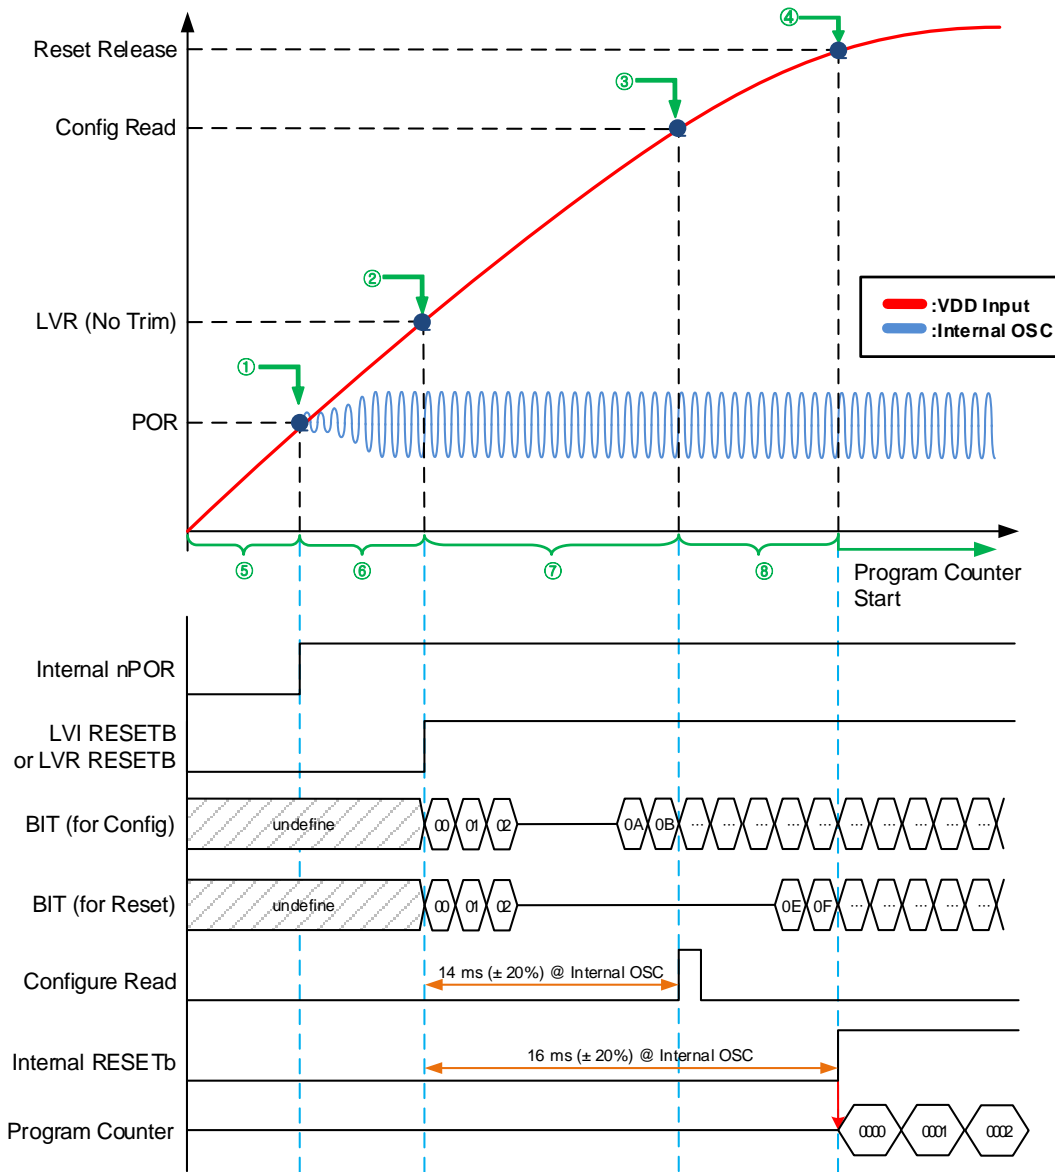

Figure 1. Boot Process when Power on
Configure read (③) and reset release (④) operate based on BIT (Basic Interval Timer) value from LVR point (②) instead of current VDD voltage value. Therefore, if the VDD rising slew rate of the interval from LVR (②) to Configure read (③) (⑦ in Figure 1) is less than about 0.025V / ms, erroneous operation may occur. This problem occurs because the Configure read does not meet the flash read voltage required to set the factory test trim value and internal register initialization value. If you have a slow VDD rising slew rate in POR in your application system, you can prevent the malfunction by delaying the LVR reset release (②) by reinforcing circuit to increase slew rate or by adding RC filter to external reset pin.